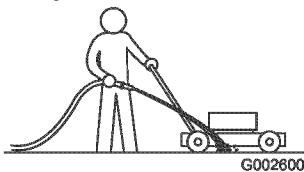

Figure 17
1. With the engine running on a flat paved surface, spray a stream of water in front of the right rear wheel (Figure 17).